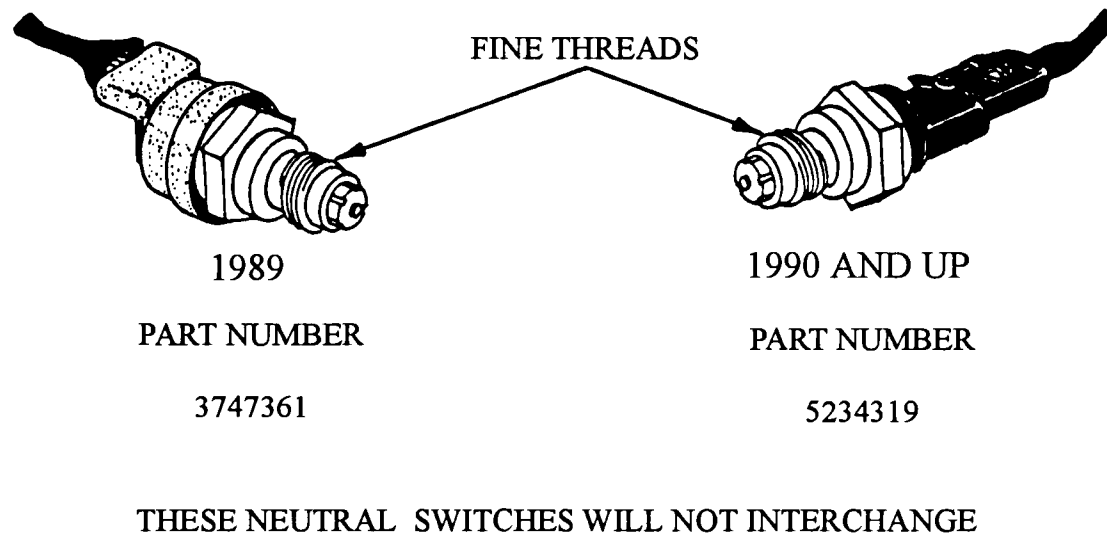

Figure 22
- (2) **NEUTRAL SAFETY SWITCH AND CONNECTOR** - The Neutral Safety Switch and its wiring harness connector have changed for 1990, and can be identified visually (See Figure 22). These Neutral Safety Switches WILL NOT interchange with one another.